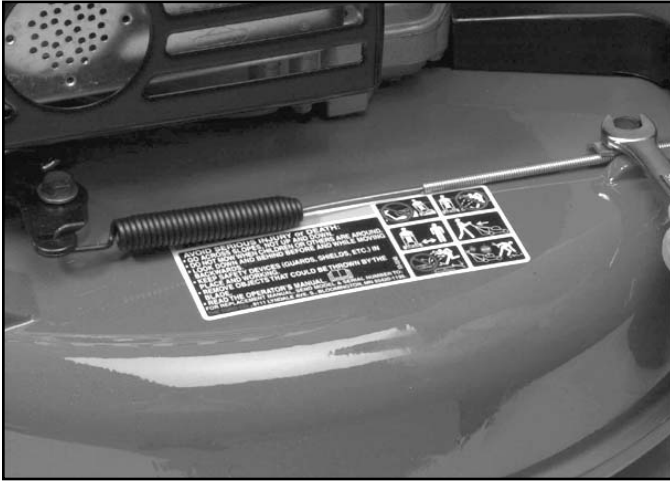

Fig 202
- Unhook the spring and cable from the bellcrank (Fig. 202).